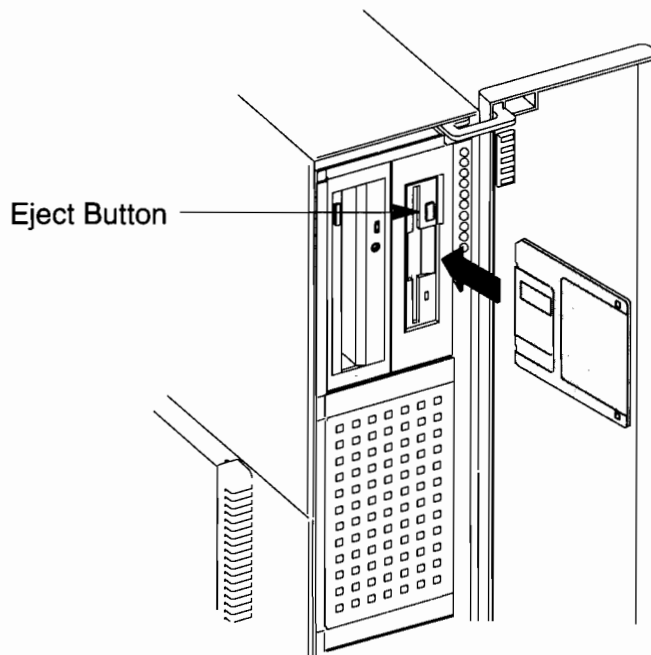

Figure 5-2. Inserting and Removing the Diskette
1. Insert the diskette into the drive, as shown in Figure 5-2.
3. To remove the diskette, push the eject button on the front of the floppy drive (see Figure 5-2), then take out the diskette.